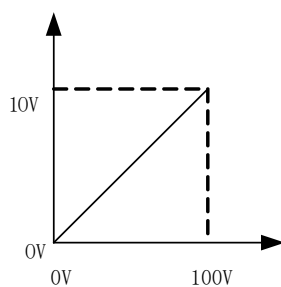

Figure 4-16 Corresponding relationship of real time voltage feedback
2. The corresponding relationship of real time voltage feedback is shown in Figure 4-16.